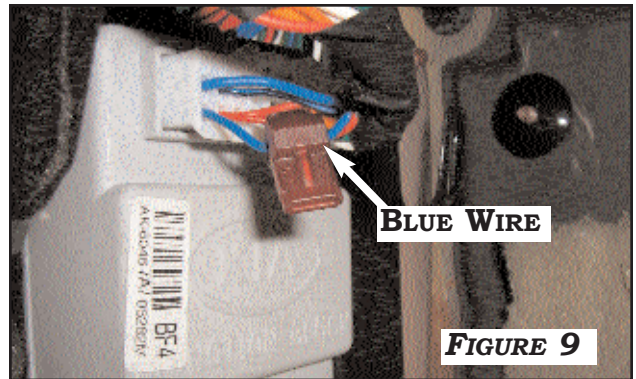

FIGURE 9
- SORENTO:** CONNECT **BLACK WIRE** OF MAIN CRUISE HARNESS TO **BLUE GROUND WIRE** IN FAR LEFT BOTTOM PIN OF CONNECTOR AT JUNCTION BOX BEHIND DRIVER-SIDE KICK PANEL. **FIGURE 9**.